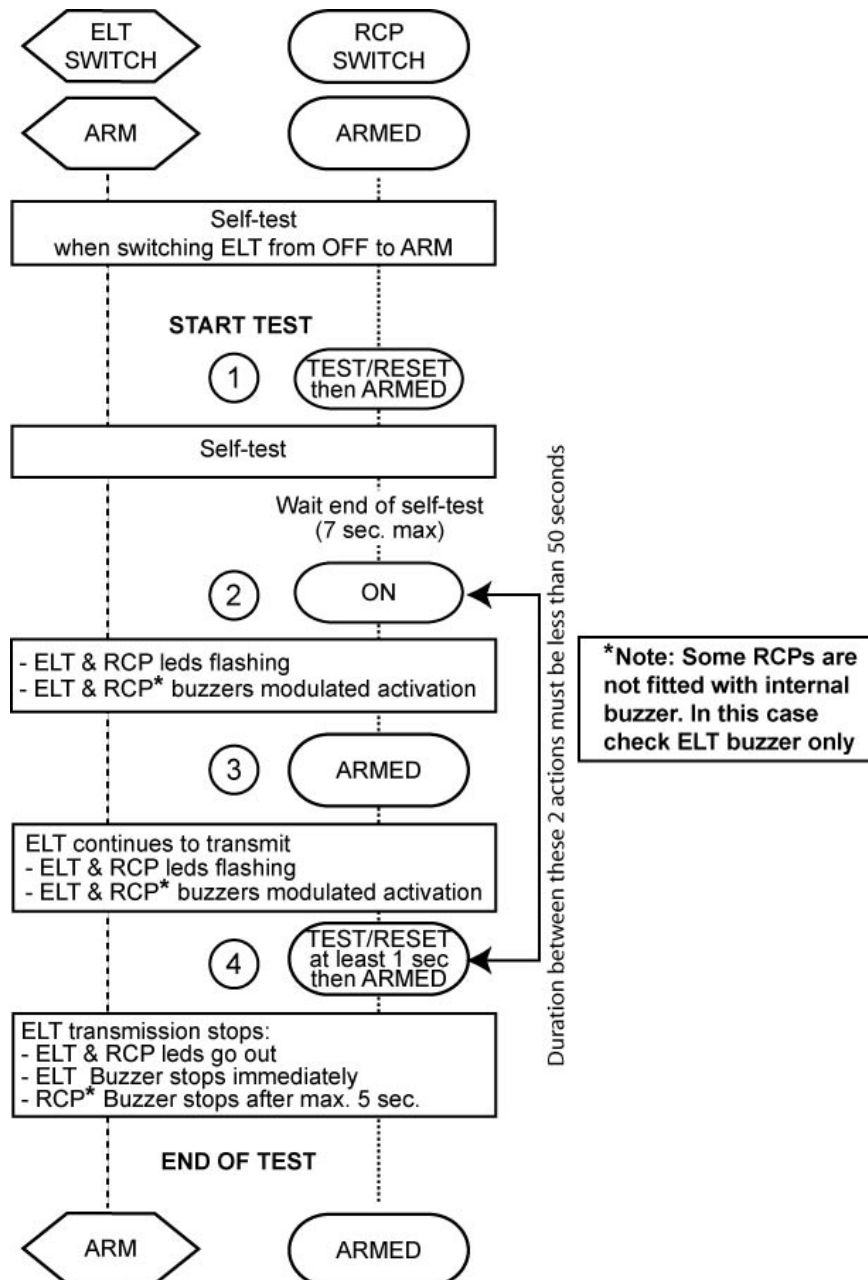

Figure 3: Operation of Controls with RCP
- (c) Perform RCP operational tests: Refer to Figure 3: Operation of Controls with RCP.